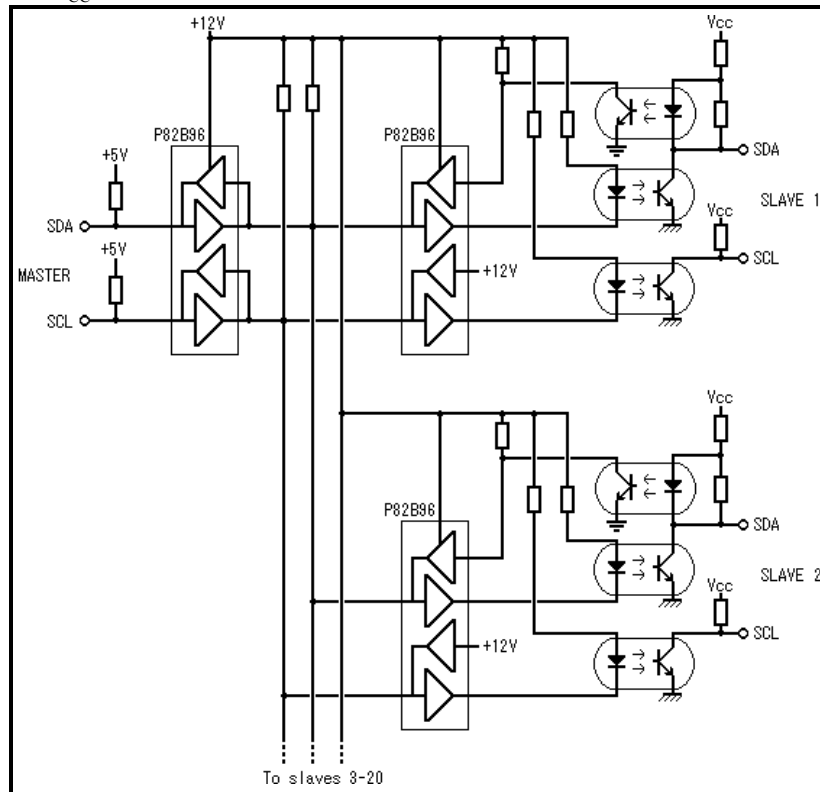

Figure 37. Opto-isolation application
7. **Question:** I want to use P82B96 for opto-isolation in a Battery Management Project. There is one microcontroller master and up to 20 microcontroller slaves as shown in Figure 37. What is the correct configuration for the opto isolation of each slave? Speed is not important and I plan to use 6N138 opto devices. The opto devices take about 1.5 mA each. Do I need to do anything with the clock return line (pin 6 Ry of P82B96) in this single master application? Tie it to V_{CC} or GND?